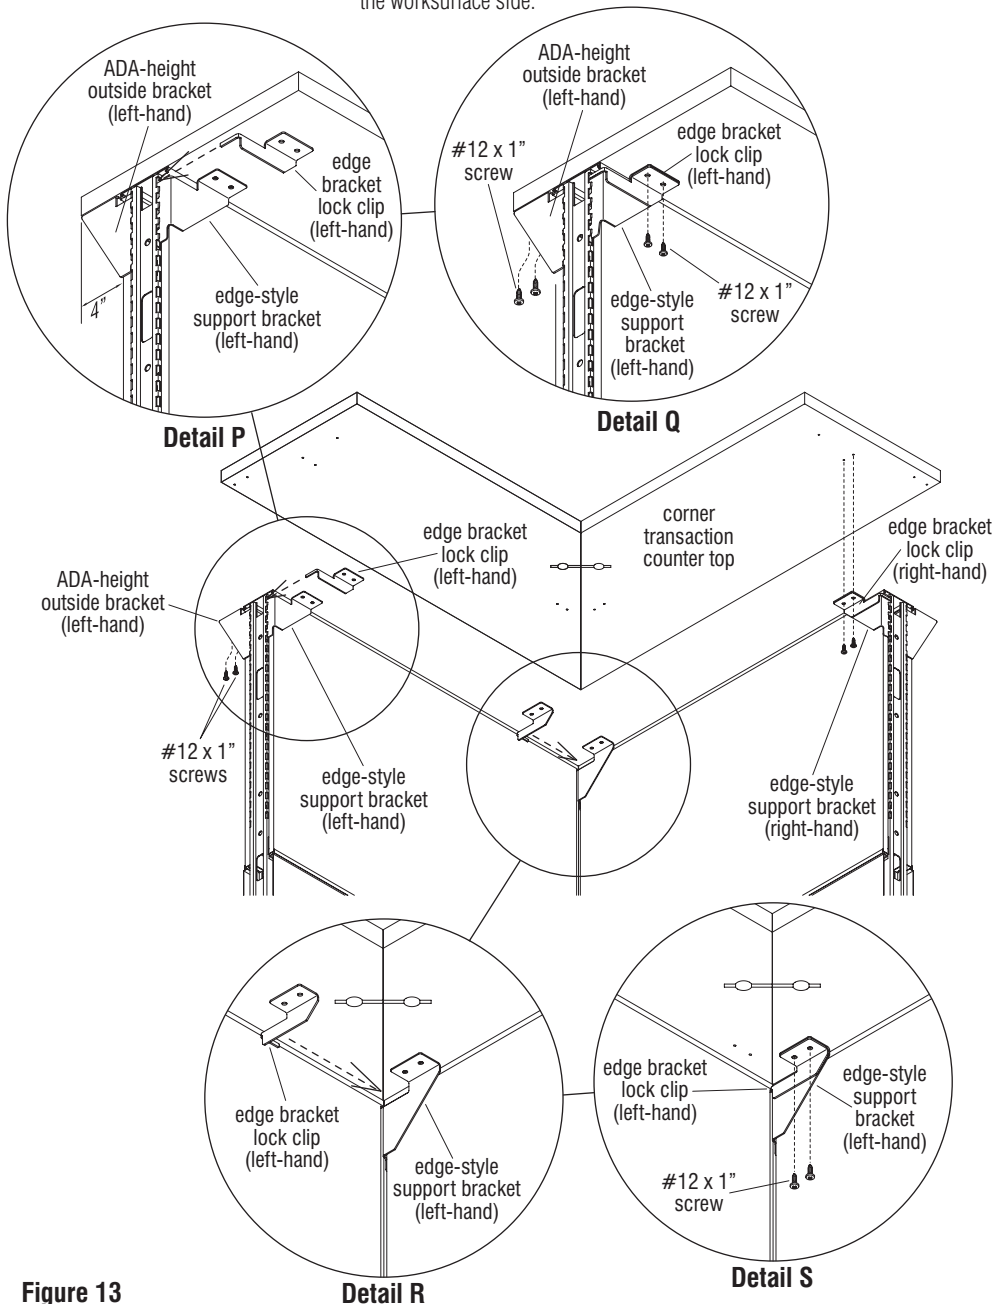

Figure 13
- Repeat step 5 above for the right-hand lock clip to the right-hand edge-style support bracket. Next, position the edge bracket lock clip up to the corner and insert the prong into the top, corner slot. Fully inserted properly, the mounting holes of the lock clip will align over the two mounting holes in the edge-style support bracket. Insert and tighten two #12 x 1" screws to secure the clip over the center edge bracket, and to the corner transaction countertop (Figure 13 & Details R & S). Finally, check and assure that all bracket mounting screws are tight. The corner transaction countertop should be snug and no movement should be felt.